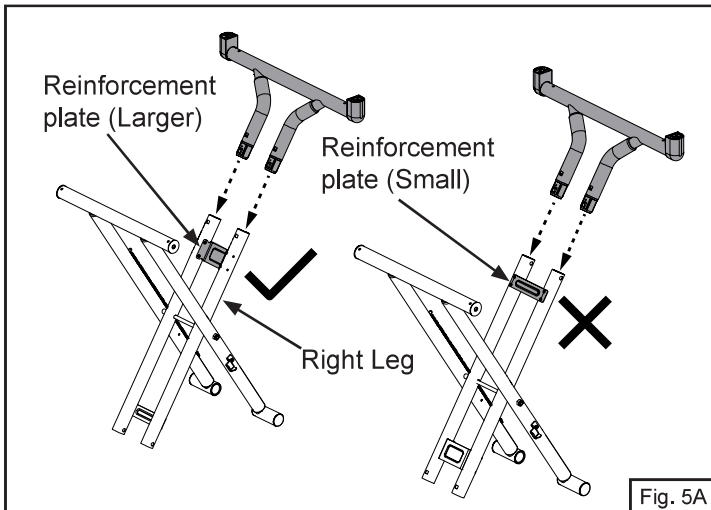
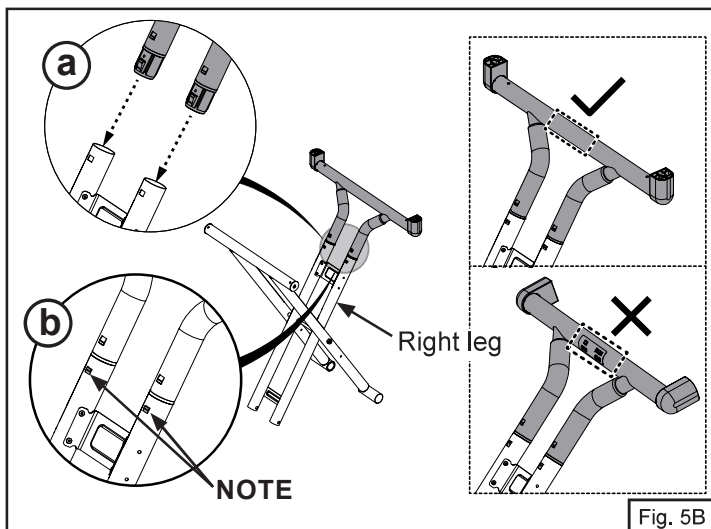

Fig. 5A
Fig. 5B
4. Insert the towing handle into the right leg (Fig. 5A).
5. Sliding towing handle into legs as shown below. Continue sliding into leg until lock into place (Step b in Fig. 5B). **NOTE:** Please refer to Fig. 5A and Fig. 5B for proper orientation of the towing handle.